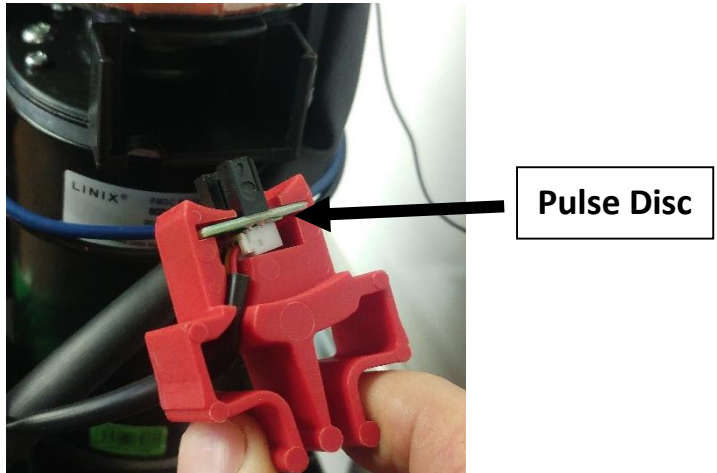

Figure 10b
4. Channel the harness through the clip (Figure 10b)
Disconnect the 3-way connector and connect the replacement pulse sensor to the harness and channel through its clip. (Figure 10b)